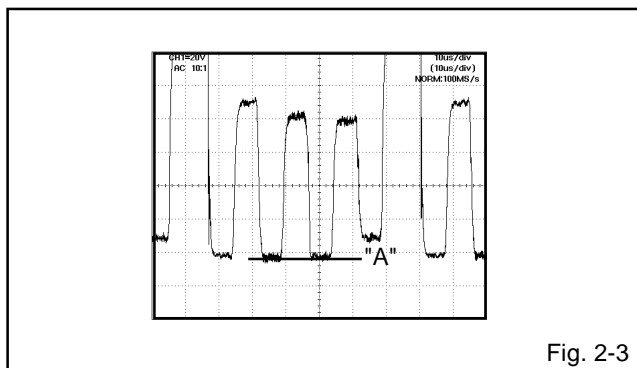

Fig. 2-3
4. Press the VOL. UP/DOWN button on the remote control until the section "A" becomes as straight line (Refer to **Fig. 2-3**)